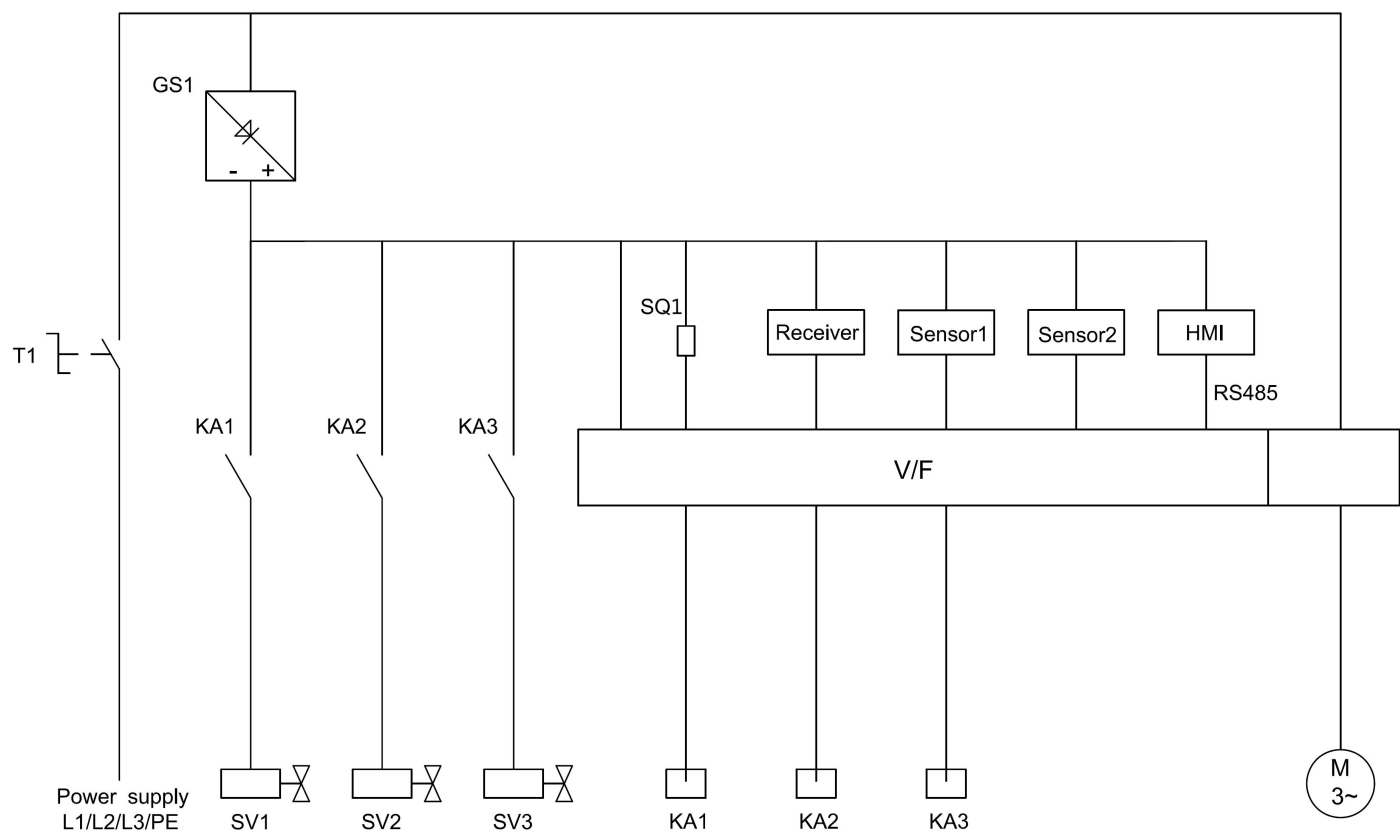

Fig.2
2.3.3 Power Supply Wiring Diagram(Fig.2)
Wire the machine as indicated on the name plate, power supply wiring diagram as Fig. 2 .